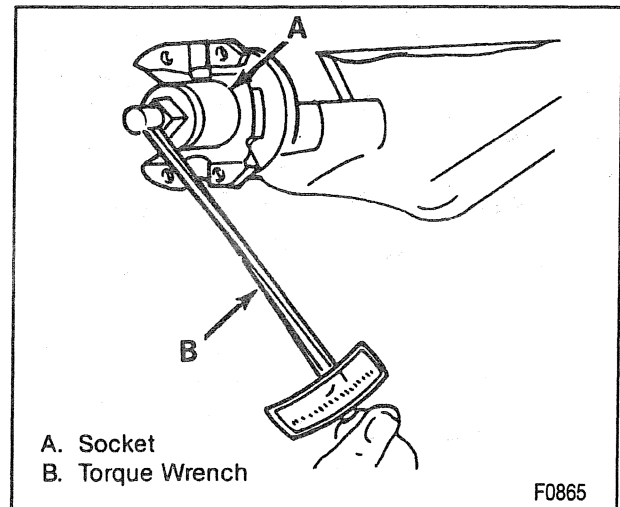

Figure 15—Measuring Pinion Rotating Torque
Remove or Disconnect (Figures 15 through 18)
- The torque required to rotate the pinion (figure 15). Record the torque value for later reference.
- The rotating torque of the pinion and compare with the torque recorded earlier (figure 15).